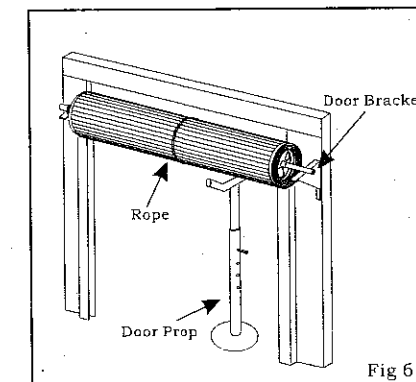

Fig 6
1.1 Roll the door up until the door curtain is out the door guides/tracks and use a rope to firmly tight up the roll in the middle of the door (see Fig. 6)